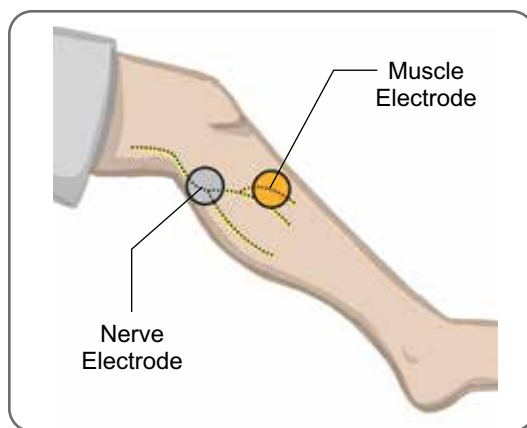

Figure 8-3: Positioning the Electrodes on the Leg
7. Position one electrode (the nerve electrode) over the common peroneal nerve, distal and slightly posterior to the fibular head. See Figure 8-3.